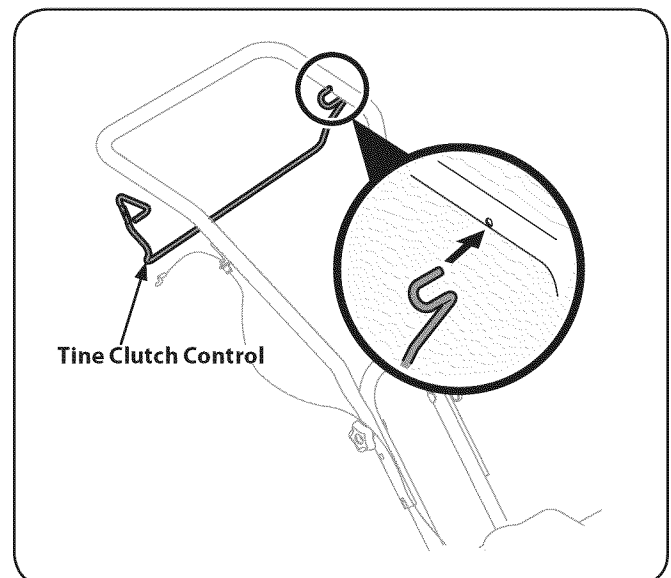

Figure 3-3
4. Insert the left end of the tine clutch control into the hole on the left side of the upper handle. See Fig. 3-3.